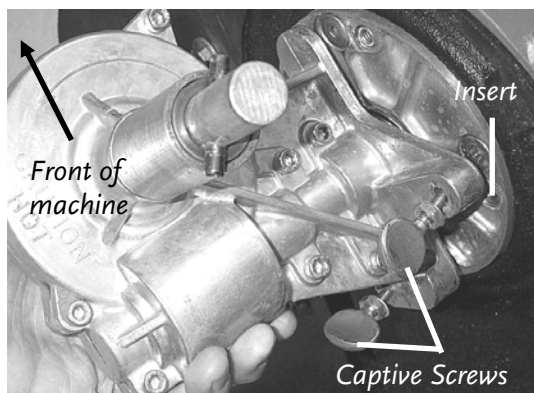

Figure 4
3. Rotate the transmission to align its shaft with the slotted hole in the shaft extension (**Figure 4**), sliding the transmission up against the lower bearing plate and rotating it to align the three captive fasteners with their respective inserts (**Figure 4**).